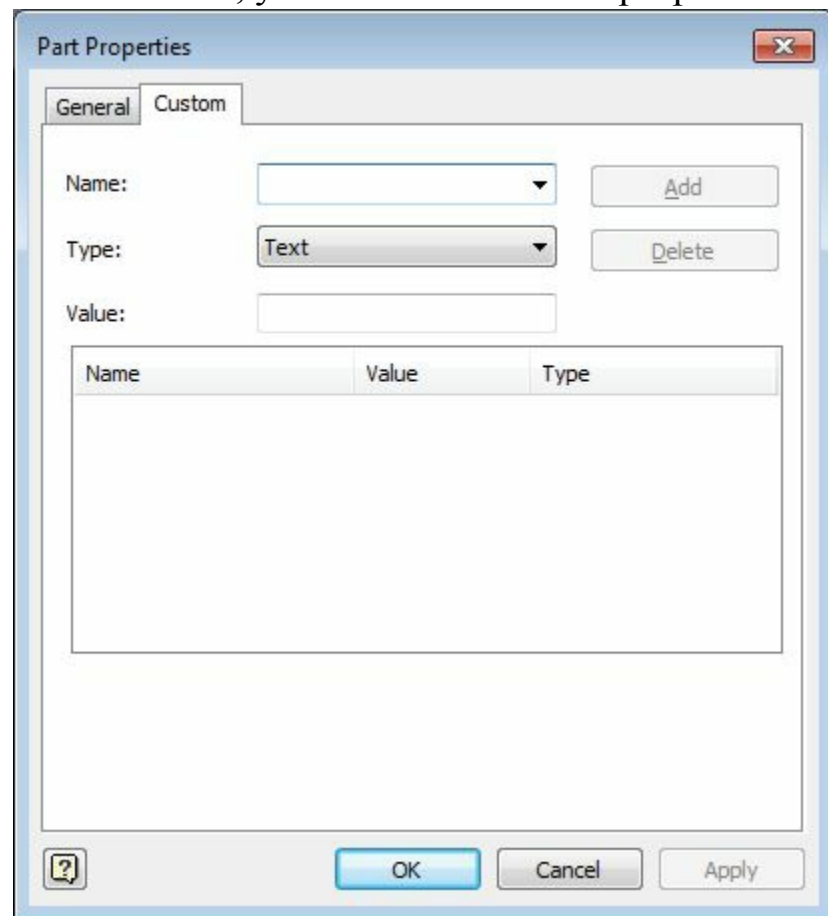

Figure-32. Custom tab of Part Properties dialog box
- Click on the **Custom** tab in the dialog box to define custom properties. Using the options in the **Custom** tab, you can create various properties of part and set their values; refer to Figure-32.